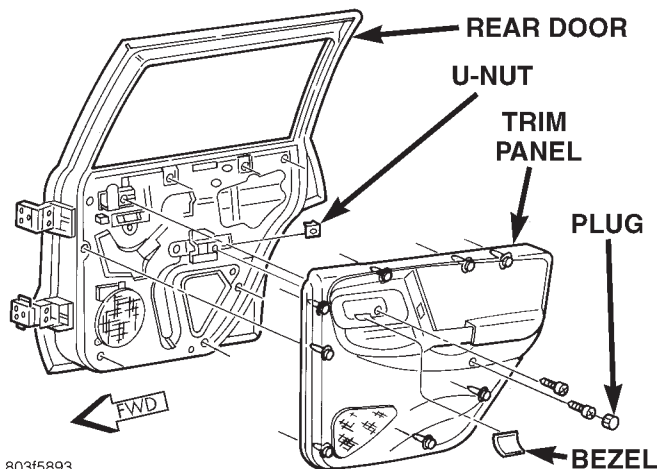

Fig. 4 Rear Door Trim Panel Remove/Install
(1) Disconnect and isolate the battery negative cable.
(2) Remove the bezel near the inside door latch release handle by inserting a straight-bladed screwdriver in the notched end of the bezel and prying gently upwards.
(3) Remove the screw located beneath the bezel that secures the rear door trim panel to the inner door panel (Fig. 4).
(4) Remove the trim cap and screw near the rear of the rear door armrest.
(5) Using a trim stick or another suitable wide flat-bladed tool, gently pry the rear door trim panel